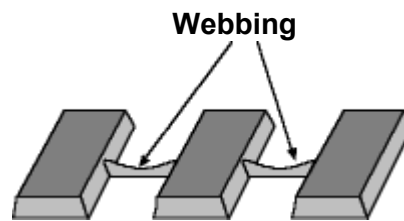

Fig. 5.14
- By deep multiple male moulds in close proximity to each other.(Fig 5.14)